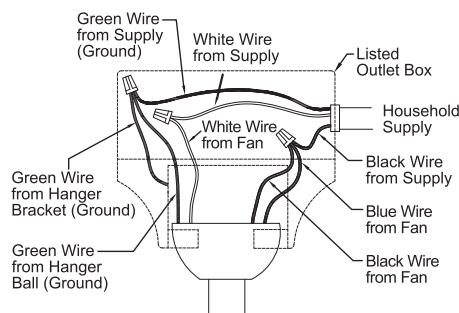

Figure 14A
1. Connect the green grounding lead from the downrod and the green grounding lead from the hanger bracket to the supply grounding conductor (this may be a bare wire or wire with green colored insulation). Securely connect wires with wire connector. Securely connect the white fan motor wire to the white supply (neutral) wire using wire connector. Securely connect the black fan motor wire and blue wire to the black supply wire using wire connector. (Fig. 14A)